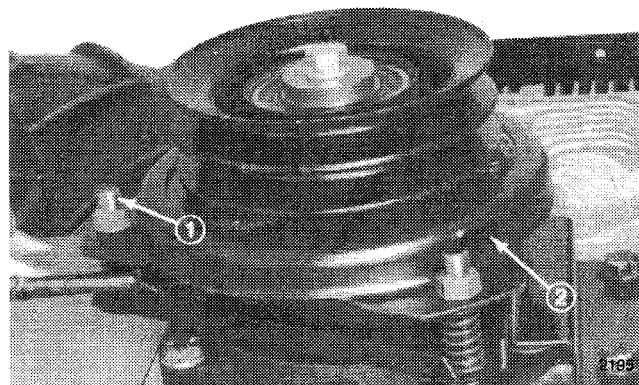

Figure 33
2. To adjust clutch, tighten or loosen lock nuts on flange studs (Fig. 33).